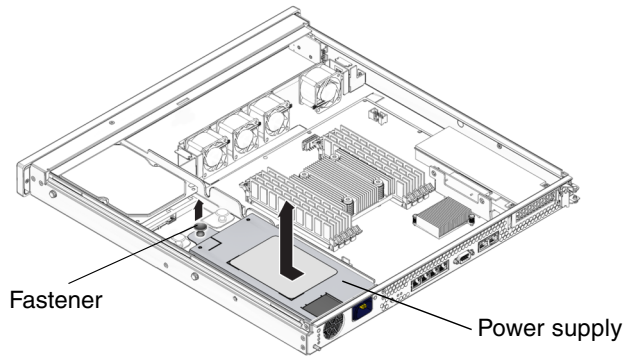

FIGURE 3-7 Removing the Power Supply
3. Loosen the fastener (FIGURE 3-7) on the front of the power supply and slide the power supply forward to remove it from the chassis.